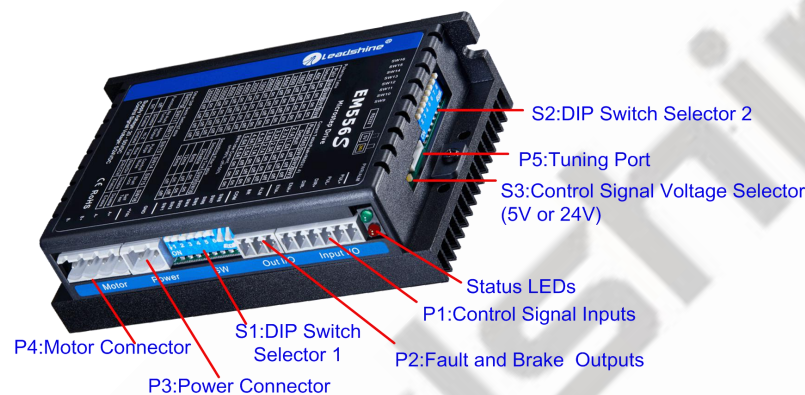

Figure 2 Connectors, DIP switches, and LED locations
DIR- (CCW-)	(6) The activated edge of PUL and DIR is set by DIP Switch SW13 (7) The factory setting of control signal voltage is 24V, must need to set S3 (figure 2) if it is 5V
ENA-	(3) ENA signal requires advance DIR signal minimum 5μs in single pulse mode (4) The default control signal voltage is 24V, to set S3 (figure 2) if it is 5V (5) Enable time to be at least 200ms
The EM556S can accept differential or single-ended control signals (pulse, direction, and enable) in open-collector or PNP connection through the P1 connector (figure 2). It is recommend to add an EMI line filter between the power supply and the drive to increase noise immunity for the drive in interference environments.
The first 8-bit is located on the side (DIP switch selector 1 in Figure 2) and used to configure settings of micro step resolution, output current, and motor standstill current as shown below, the factory setting of SW1-SW8 is OFF, OFF, OFF, OFF, OFF, OFF, ON, ON.
The second 8-bit DIP switch is located on the top (DIP switch selector 2 in figure 2), and used to configure settings of control command filtering time, motor auto-configuration, fault output impedance, pulse active edge, control mode, lock shaft, and self-test as shown below, the factory setting of SW1-SW8 is OFF, OFF, OFF, ON, ON, OFF, OFF, OFF.
The Third 1-bit selector is located on the top (DIP switch selector 3 in figure 2), used to configure the voltage of control signals. For the safety of optically coupled, the factory setting is 24V, which no need to connect 2K resistors like the old drives, making it easier to use. When the voltage of the control signal is 5V, the S3 must be set to 5V, otherwise, the motor won't work.